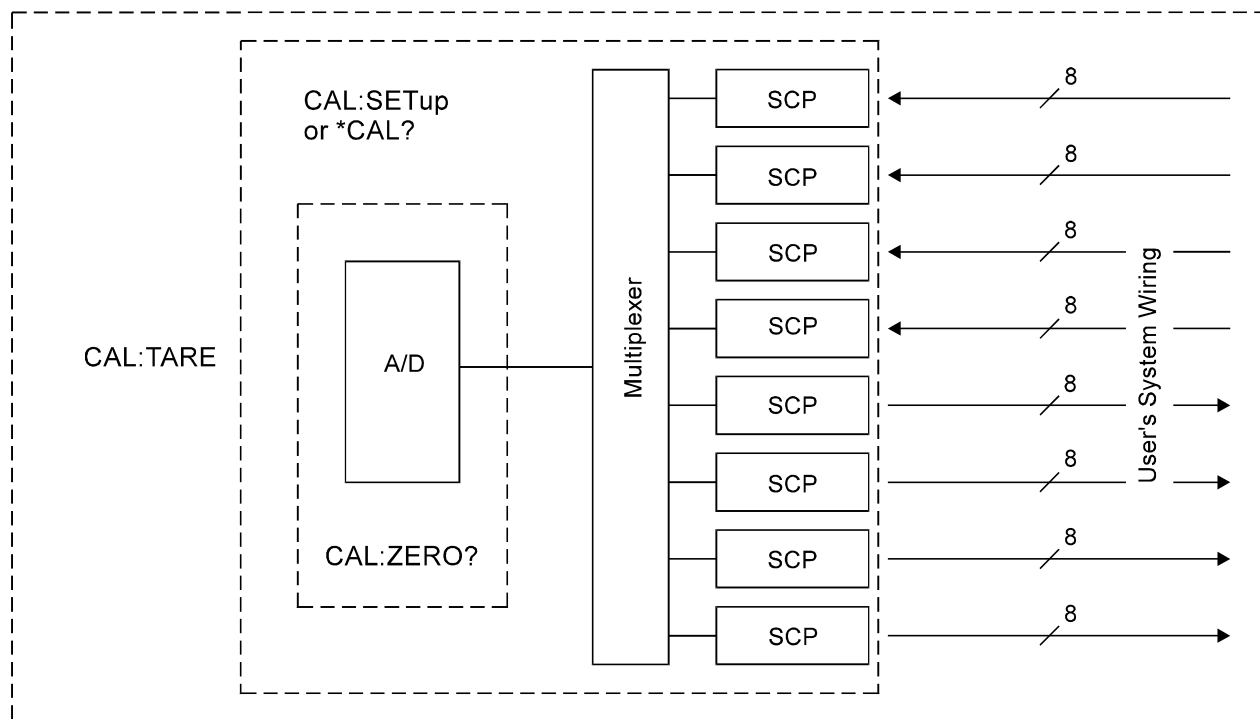

Figure 6-3 Levels of Working Calibration
2. "Working Calibration", of which there are three levels (see Figure 6-3):